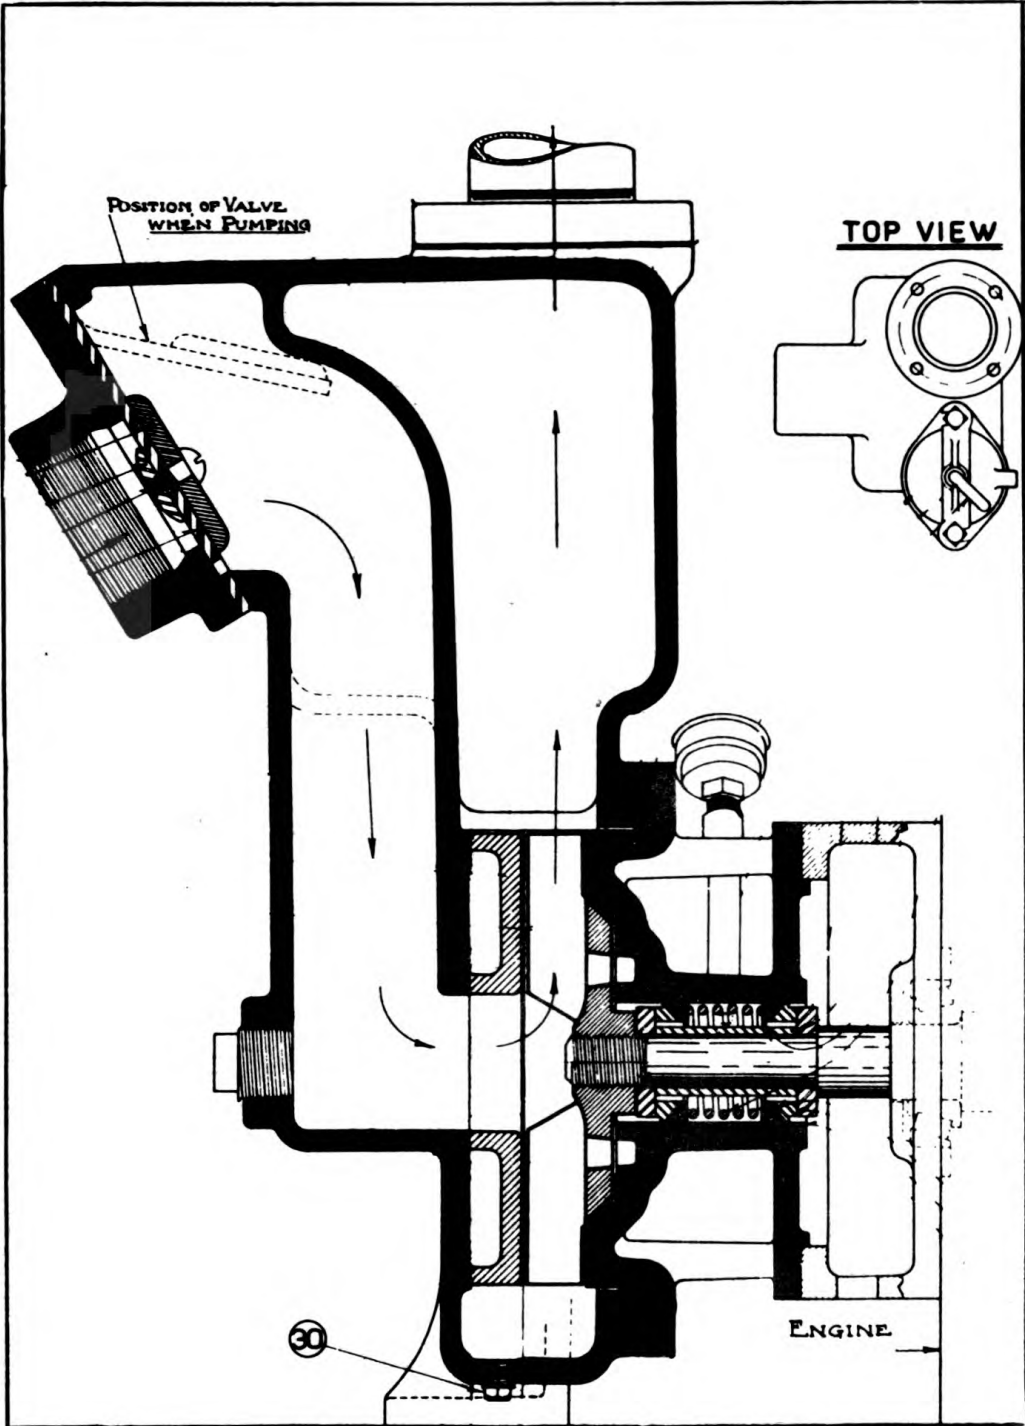

Fig. 12
**DETAILS OF PUMP (Fig. 12)**
**FREEZING WEATHER**—In freezing weather the pump should be drained each time it is stopped for any length of time, such as overnight, by removing the drain plug (30) in the extreme bottom of the casing. If the water being pumped contains a large amount of solids, which may plug the drain hole and prevent the casing from draining properly, then a stick or wire should be run up through this hole to be sure that it is open and all water is drained. After the flow from the drain hole has ceased the engine should be operated so all water will be thrown from the impeller by centrifugal force. This will prevent a thin film of ice forming between the face of the impeller and the face of the wear plate which would seize the impeller and prevent the pump from being started.